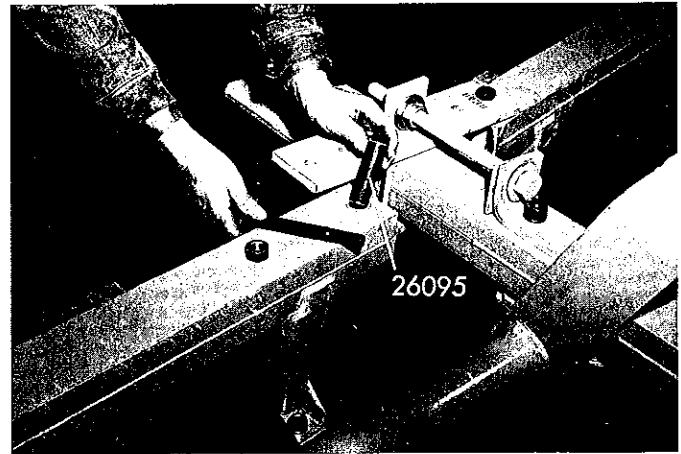

FIGURE 5
**FIGURE 3**—The 26083-1 adjusting screw bracket is connected to the 26060 front, top slide bracket using 26127 bushing, 006180,  $\frac{3}{8}$ " washers and 008025,  $\frac{3}{8}$ " plated nuts on both sides. As shown in Figure 5, 26095 gang beam bushings and  $\frac{3}{4}$  x  $5\frac{1}{2}$ " bolts attach the top and bottom slides to the center beams.
Roll the gangs into position for attachment to the center beam. Note from Figure 5 that the gang beams are assembled to the front and rear slide brackets with 26095 gang beam bushings and  $\frac{3}{4}$ " x  $5\frac{1}{2}$ " bolts. Leave these bolts loose until other frame members are assembled.
During field operation leave the tractor drawbar free to swing. Move rear gangs to outboard holes in rear slides (Figure 5) to prevent ridging in the higher speed ranges.